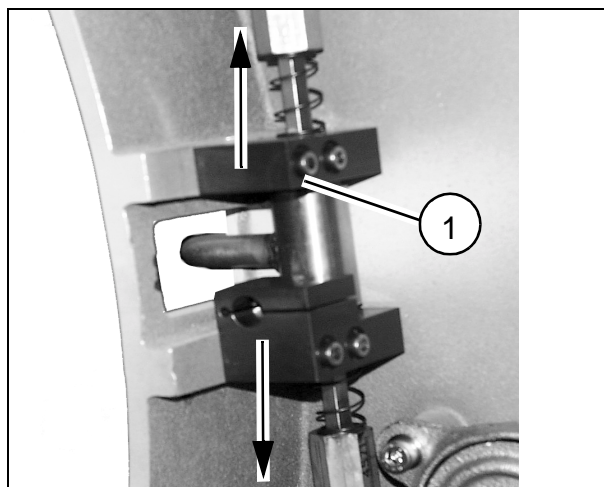

Fig. 4
- Unscrew the foot lever fastener (1/Fig. 4). After the mounting screws are loosened, the parts must be shifted in the direction of the arrow according to Fig.4.